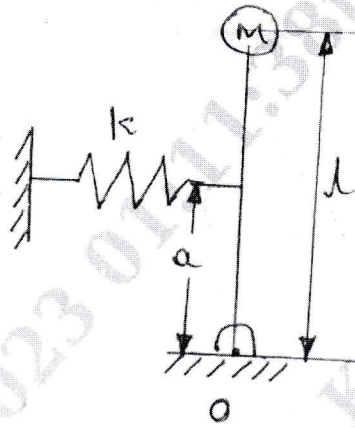

Fig. Q8 (b)
- b. Find the natural frequency of a system shown in Fig. Q8 (b).